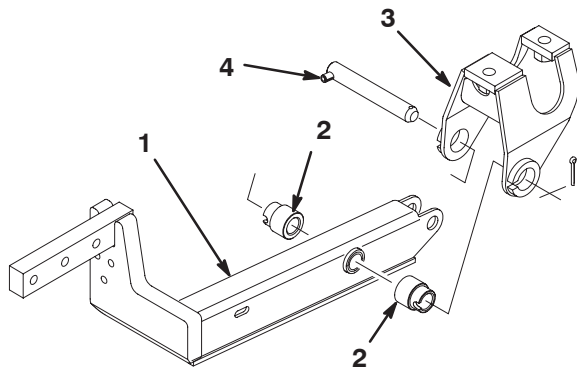

Figure 1
4. Mount a lift arm to the pivot bracket with 2 spacers, a pivot pin, and a cotter pin (5/32 x 1-3/4 in.). Mount the lift arm with the bend positioned outward (Fig. 1).